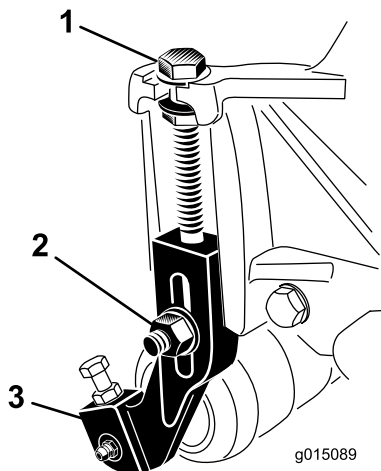

Figure 19
1. Loosen locknuts securing height-of-cut arms to cutting unit side plates (Figure 19).